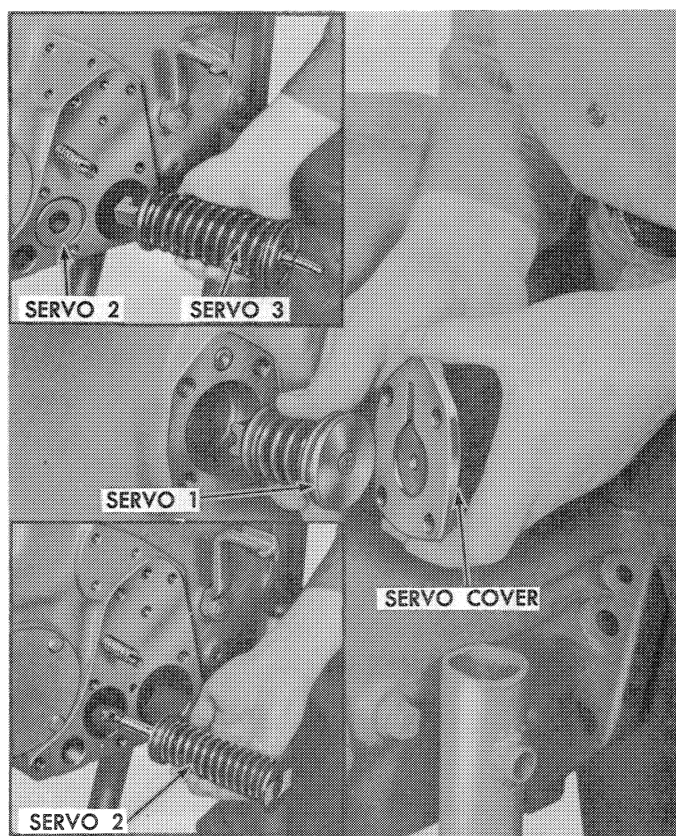

Figure 96—Removing Servos 1, 2, and 3
17. Remove the four servo 1 cover attaching bolts and remove the cover and servo from the right side of the transmission, as shown in Figure 96. Servo 3 and 2 are removed from the left side, as shown. Push the servo 2 bore and piston rod seal outward by hand.